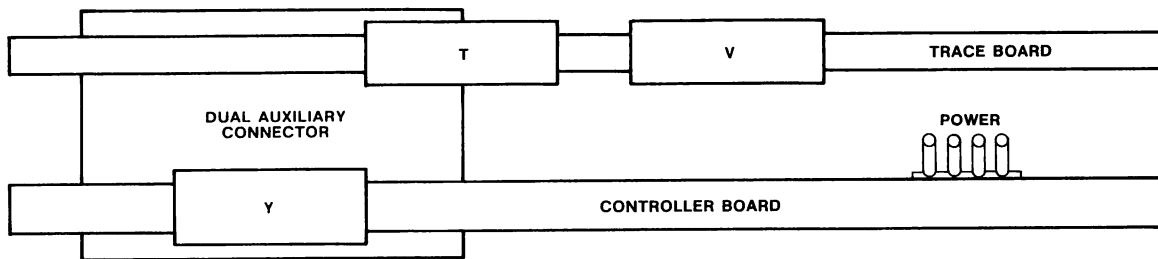

Figure A-2. Emulator Boards in Dual Auxiliary Connector
5. **Insert Controller board in dual auxiliary connector.** Refer to figure A-2. Insert the controller board so that the component side faces toward the empty slot on the connector. For the model 800, the connector is labeled "DUAL AUX CONN"; for the Series II, the connector is labeled "SBC DUAL AUX CONN".